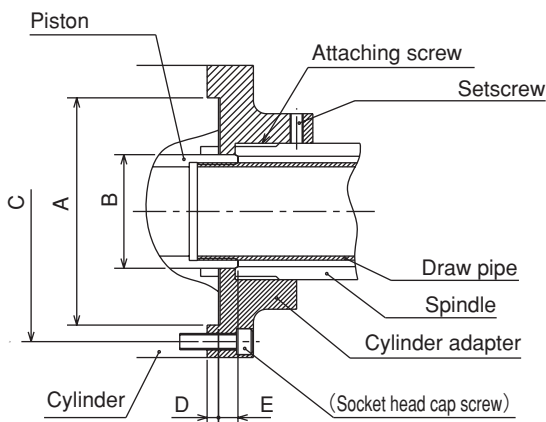

Fig. 11 Cylinder adapter attaching part
- Bring the cylinder as close to the lathe spindle support as possible. The attaching method of the cylinder adapter and the measuring method of run-out are illustrated in the drawings below. (Fig. 11, Table 11)